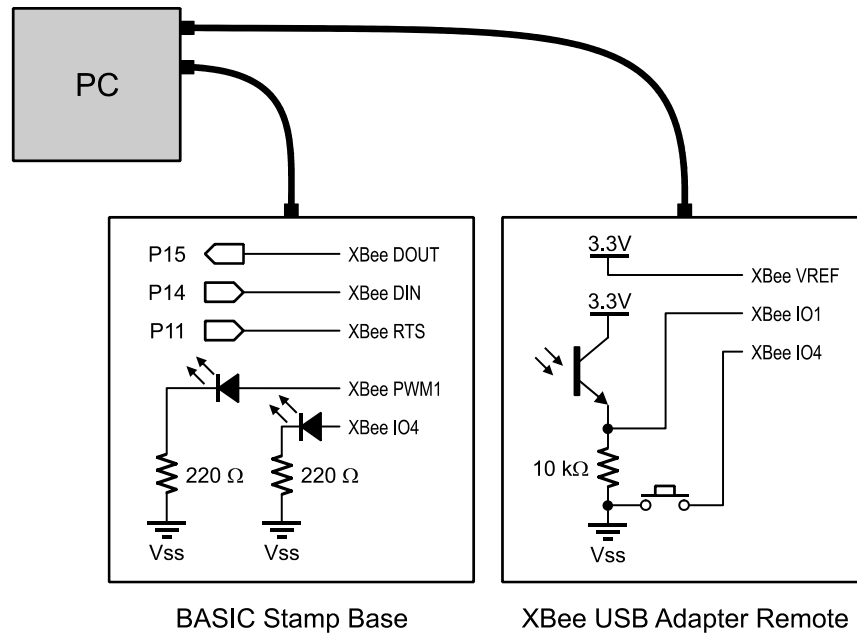

Figure 6-11: BASIC Stamp Testing Hardware Configuration
The code, `API_Base.BS2`, will be used to send and receive framed data in API Mode to highlight some of the nice features of API Mode and the XBee module in this mode. The code is very long and memory intensive. Further on we will discuss some tricks to use less memory, but generally these tricks reduce the amount of data received and nearly eliminate the need to use API Mode in the first place. The configuration in Figure 6-11 is used to test `API_Base.bs2`. The Base node is controlled and monitored via the BASIC Stamp Debug Terminal and the Remote node is on USB for power and is using X-CTU for a terminal. An array of 18 bytes called **DataSet** is used to hold the incoming and outgoing frame.
- ✓ Configure the hardware as shown in Figure 6-11.